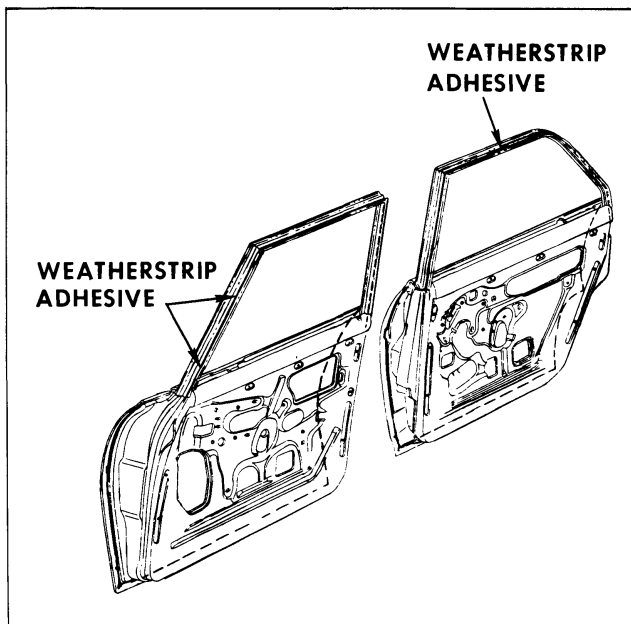

Fig. 12-2 Adhesive Application
2. Clean off old cement to insure a clean cementing surface. On hard top and convertible styles, apply a bead of an approved weatherstrip cement to hinge and lock pillar facing of door. Begin adhesive application at belt line and continue down for approximately 7" to 9". On closed styles, begin adhesive application approximately 5" below belt line on hinge pillar side and continue around entire upper frame to 5" below belt line on lock pillar side. (Fig. 12-2).